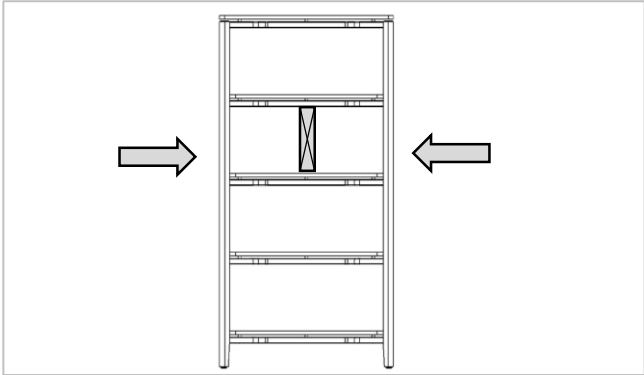

Figure 6.1
2. Line up the Wall Mount Kit bracket to the underside of either one of the upper three shelves, marking the holes of the bracket over the stud from Figure 6.1. Secure one of the brackets to the marked location using the longer screws provided.